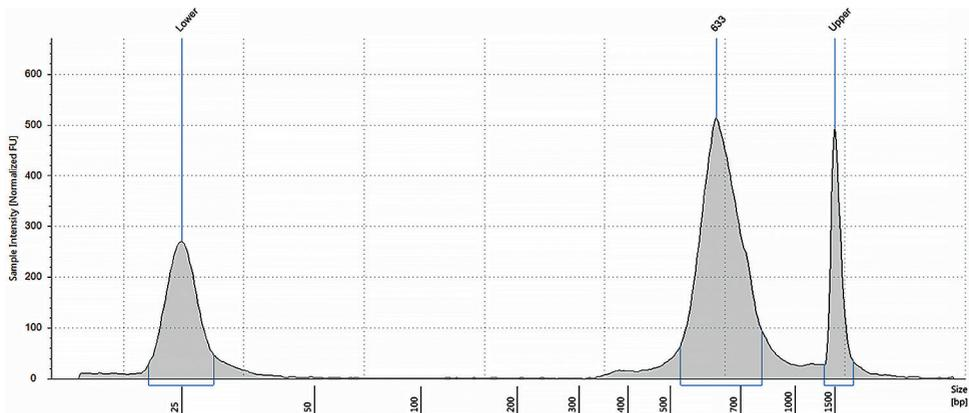

Figure 2. A typical library peak size. The shape and length distribution of a TCR library may vary depending on the repertoire composition.
17. Verify quality of the obtained PCR product by analyzing an aliquot of the sample alongside a DNA ladder on the agarose gel or capillary electrophoresis (e.g. BIOANALYZER® or TapeStation®, Agilent Technologies). The library should have a peak size at approximately 650 bp (**Figure 2**).